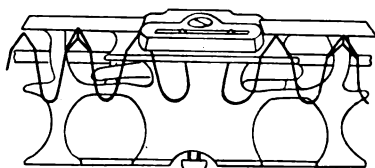

FIG. 1.—SAW JOINTER
To make all teeth the same length place the saw in a vise, or, if the filing is to be done in the woods, where no vise is available, place the blade, teeth uppermost, in a notch in a convenient stump, pass a file carefully over the teeth, as shown in Figure 1, until all teeth touch the file. This can readily be determined by the bright, flat tops on the cutting teeth.
3. The next operation consists of filing up the rakers to a keen, sharp edge, using care that their tops shall be square with the side of the blade. It is necessary to point up the rakers in this manner, whether they are to be swaged or not. (Fig. 1.)